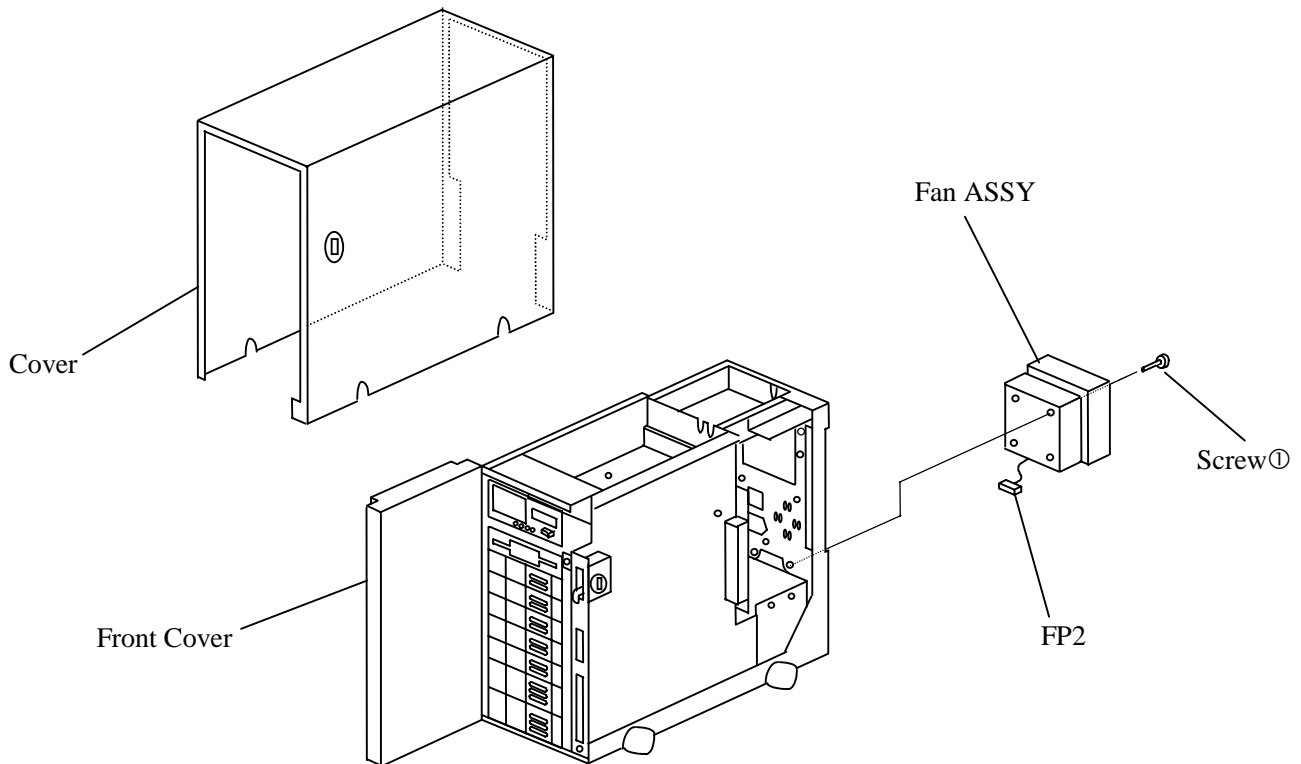

Figure 12. Replacement power supply Fan ASSY
12. Replacing the power supply Fan ASSY fan assembly (See Figure 12.)